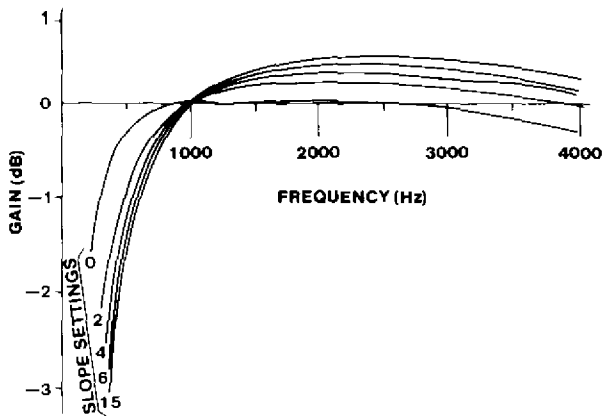
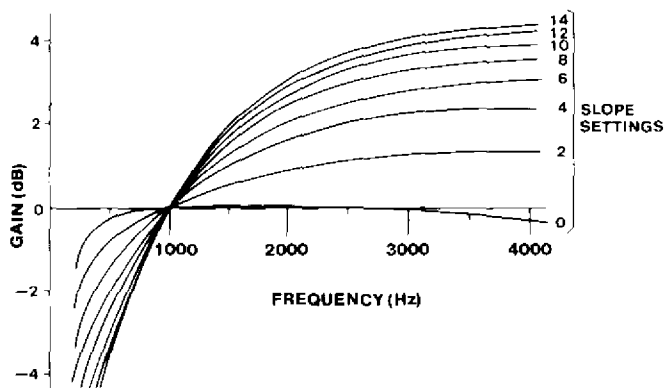

figure 3. Typical response curves for receive-channel equalizer in slope mode, nonloaded cable
figure 4. Typical response curves for receive-channel equalizer in slope mode, loaded cable
2.07 Figures 3 and 4 show typical response curves for the 263DA-3/DB-3's equalizer in the slope mode. Figure 3 shows the curves for non-loaded cable, while figure 4 shows the curves for loaded cable. For comparison purposes, all frequency-response curves in figures 3 and 4 are drawn with the same 0dB-gain reference point (1004Hz). Actually, all of these curves except those for a 0 (zero) SLOPE switch setting are raised above the 0dB level at 1004Hz by as much as 11.4dB. The exact amount by which a particular curve is raised depends upon the SLOPE and L/NL (loaded/nonloaded) switch settings selected. These amounts are listed in table 3.